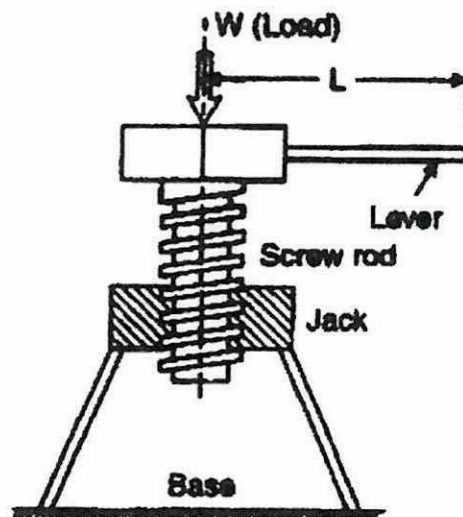

Figure Q4(b)
- (b) The mean diameter of a 'Vee' threaded screw jack as shown in **Figure Q4(b)** is 70 mm. The pitch of the thread is 20 mm and the angle of thread β is 22° . The coefficient of friction is 0.17. Calculate the efficiency and force that must be applied at the end of a 0.75 m long lever, which is perpendicular to the longitudinal axis of screw to raise a load of 40 kN. (14 Marks)